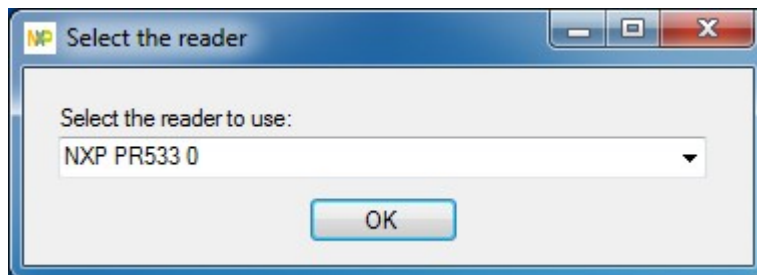

Figure 3-8: NXP PCSC Tool – Select the Reader
Step 7: The Select the reader window prompts. Select a RFID reader and click **OK**. See Figure 3-8.